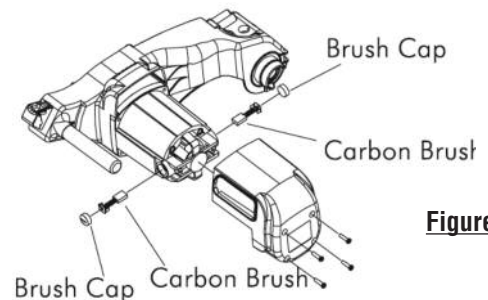

Figure 5B
5. Use a coin or wide blade screw driver to remove the carbon brush cap. Use care not to damage the carbon brush cap. Inste the cap for damage. If the cap has any signs of damage, replace. *See Figure 5B.*